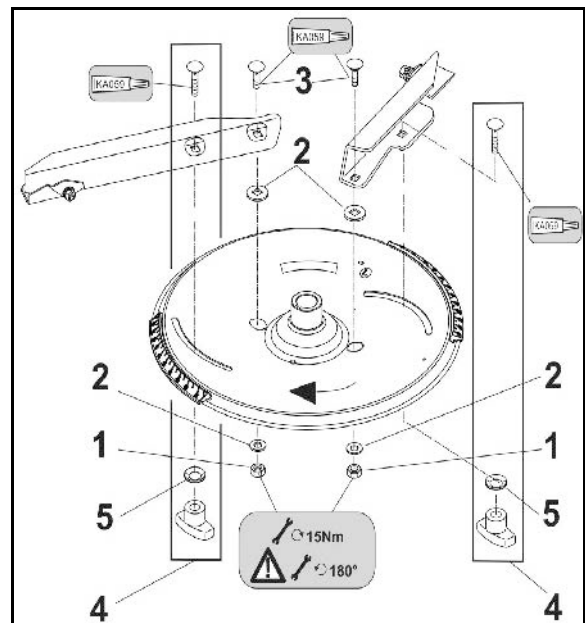

Fig. 90
- 6 screws of the weighing cell (Fig. 90/1)